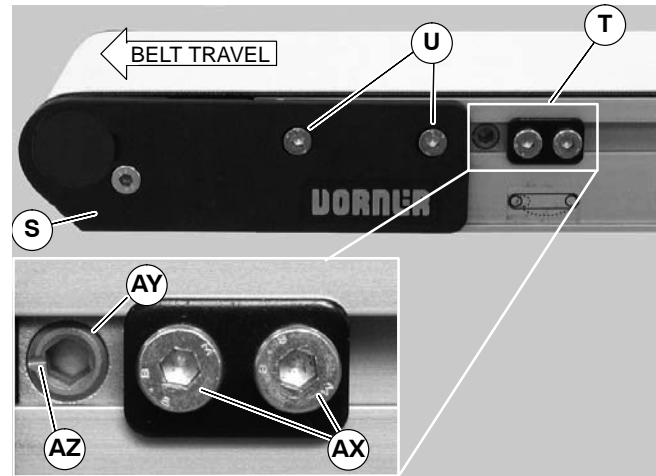

Figure 29
Non V-guided belt conveyors are equipped with belt tracking cam assemblies (T of Figure 29) for belt tracking adjustment.
1. Ensure head plate fastening screws (U of Figure 29) on both sides of conveyor are tightened.
2. On both sides of conveyor, loosen two (2) cam fastening screws (AX). Adjust cams (AY) until indicator slots (AZ) are horizontal and facing end of conveyor. Then slide cam assemblies against head plates (S) and re-tighten cam fastening screws (AX) to 60 in-lb (7 Nm).
3. On the side toward which the belt is tracking, loosen head plate fastening screws (U).
4. With the conveyor running, use a 5 mm hex-key wrench to rotate the tracking cam (AY) in small increments until the belt tracks in the center of the conveyor. Then while holding the cam in position, re-tighten the head plate fastening screws (U) with a 4 mm hex-key wrench to 60 in-lb (7 Nm).